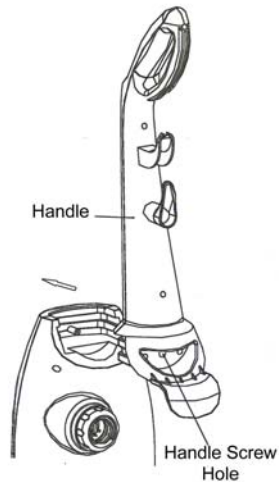

Fig. 2
2. Position the handle as shown in fig. 2.